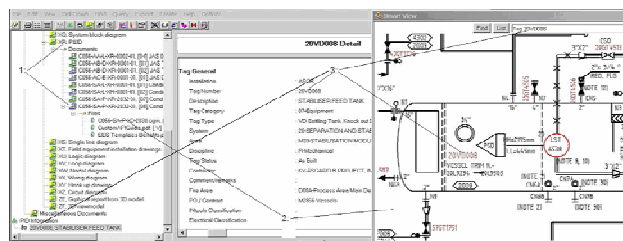

Figure 6: Relationships between Data and Documents in SmartPlant Foundation
- **Drawings and Data Relationships** – Figure 6 shows the relationships between equipment in SmartPlant Foundation and its drawing and individual graphic elements within the drawing. In the example below, if the equipment item also appeared in the equipment location drawing from SmartMarine 3D, Smart Integration Framework would have automatically created a relationship from the equipment item to that drawing. End users can use that relationship to navigate from the tag in the context of the schematic drawing to the location drawing.